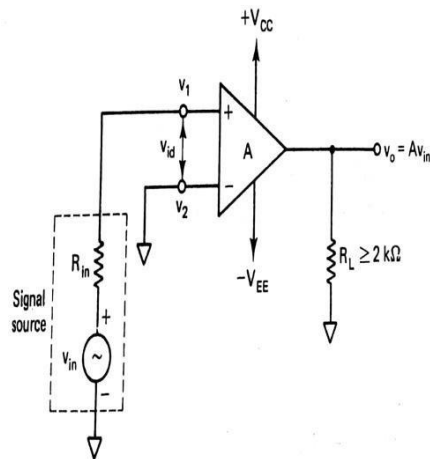

Figure 3-11 Noninverting amplifier.
- Figure 3.11 shows the open loop non-inverting amplifier